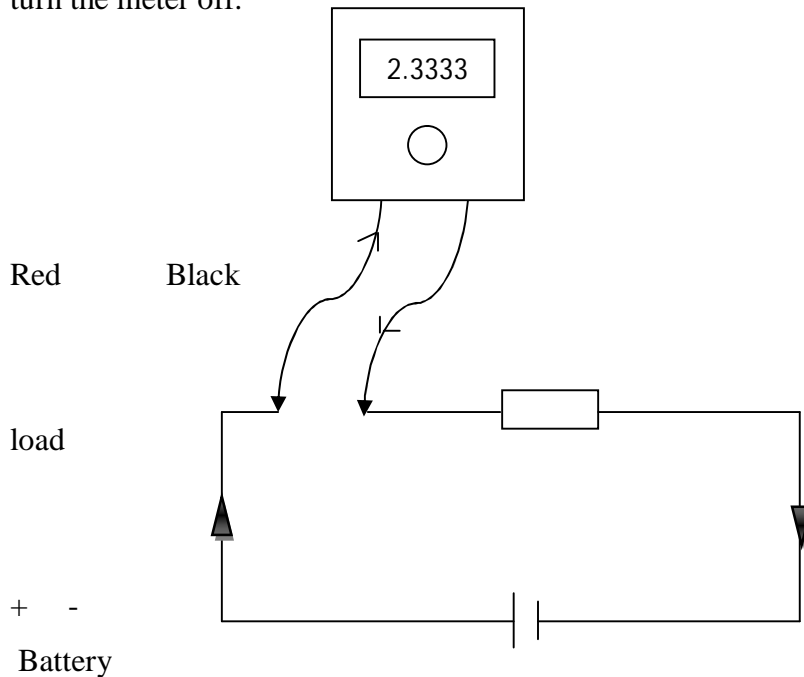

Figure 2.5: Circuit arrangement for the measurement of electric current using a multimeter
4. Break the circuit at the point where the current is to be measured and insert the metallic probes (red test lead to positive polarity of the circuit being tested and black into the negative) as shown in Figure 2.5;
Remember that by setting the selector switch to 'current' position as explained in (3) above, the multimeter is converted to an Ammeter with a very low internal resistance to allow smooth passage of current when connected in series with the load as shown in Figure 2.5. It is therefore strictly prohibited to connect multimeters under this (current) selection in parallel with the load. This will definitely result to short circuit thereby resulting to damages in the instrument and consequent injuries to the user.